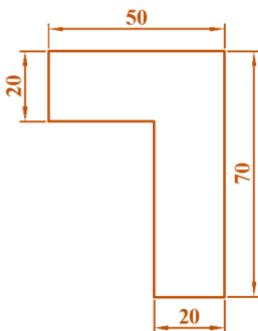

Fig.P5.17
- Find the centroid of the section shown in the fig.P5.17